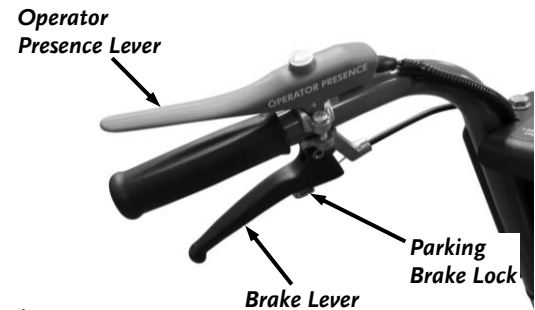

Figure 22
5. Set the Parking Brake by squeezing the Brake Lever on the right Handlebar and lift up on the Parking Brake Lock, locking the Lever in place (**Figure 22**).
Note: The DR POWERWAGON is equipped with an Operator Presence Control for added safety. The Operator Presence Lever must be depressed whenever the Shift Lever is in gear, or the Engine will stop. You may run the Engine without depressing the Operator Presence Lever (**Figure 22**) only if the Shift Lever is in the "N" (Neutral) position (**Figure 23**).